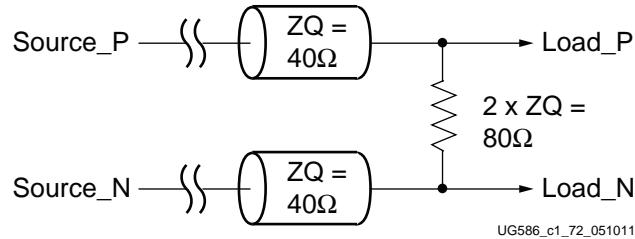

Figure 1-71: 80Ω Differential Termination
- Differential  $80\Omega$  traces and termination are required for operation at 1333 Mb/s and higher.  $100\Omega$  is acceptable below 1333 Mb/s. Figure 1-71 is for 1333 Mb/s and higher.
- Differential signals should be terminated with the memory device internal termination or an 80Ω differential termination at the load (Figure 1-71). For bidirectional signals, termination is needed at both ends of the signal. ODT should be used on the memory side. For best performance in HP banks, DCI should be used. For best performance in HR banks, IN\_TERM (internal termination) should be used.